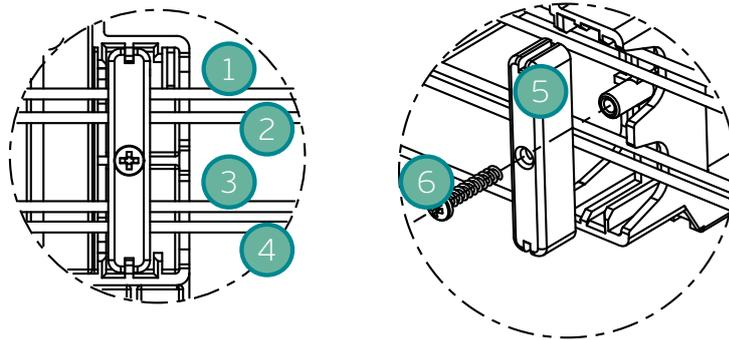

Figure 3.11: Cord relief assembly
3. The cables must pass through the cord relief as shown in Figure 3.11.
- The screw shown in Figure 3.11 must be fixed with a torque within 0.8 - 1.2 Nm.